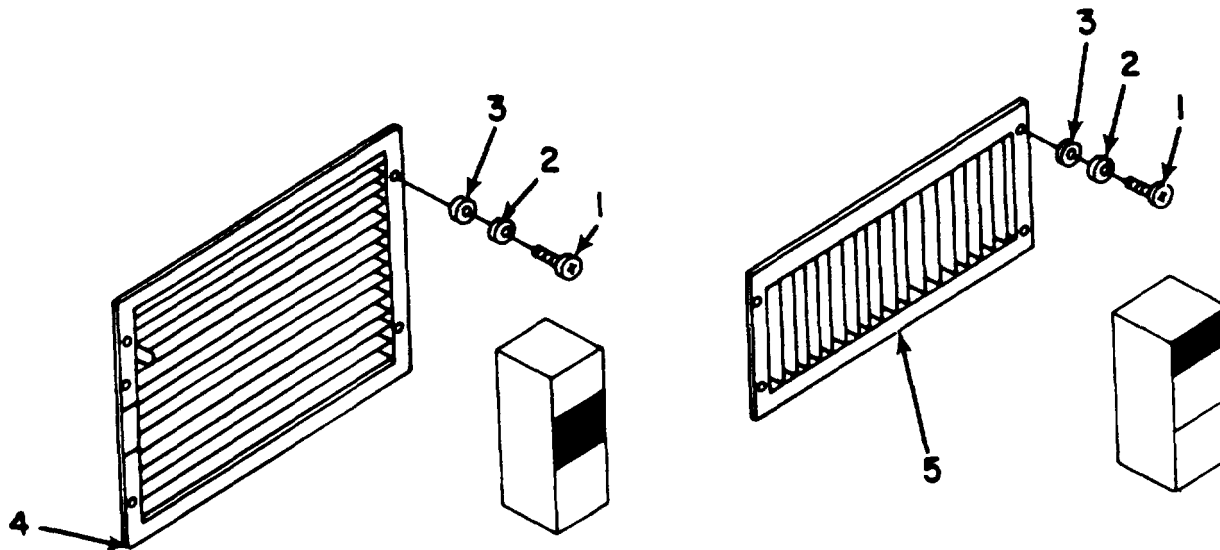

Figure 4-9. Intake and Discharge Grilles.
Return Air Intake Grille/Discharge Grille. Remove four screws (1), lockwashers (2), and flat washers (3) and grilles (4 and 5). See Figure 4-9.